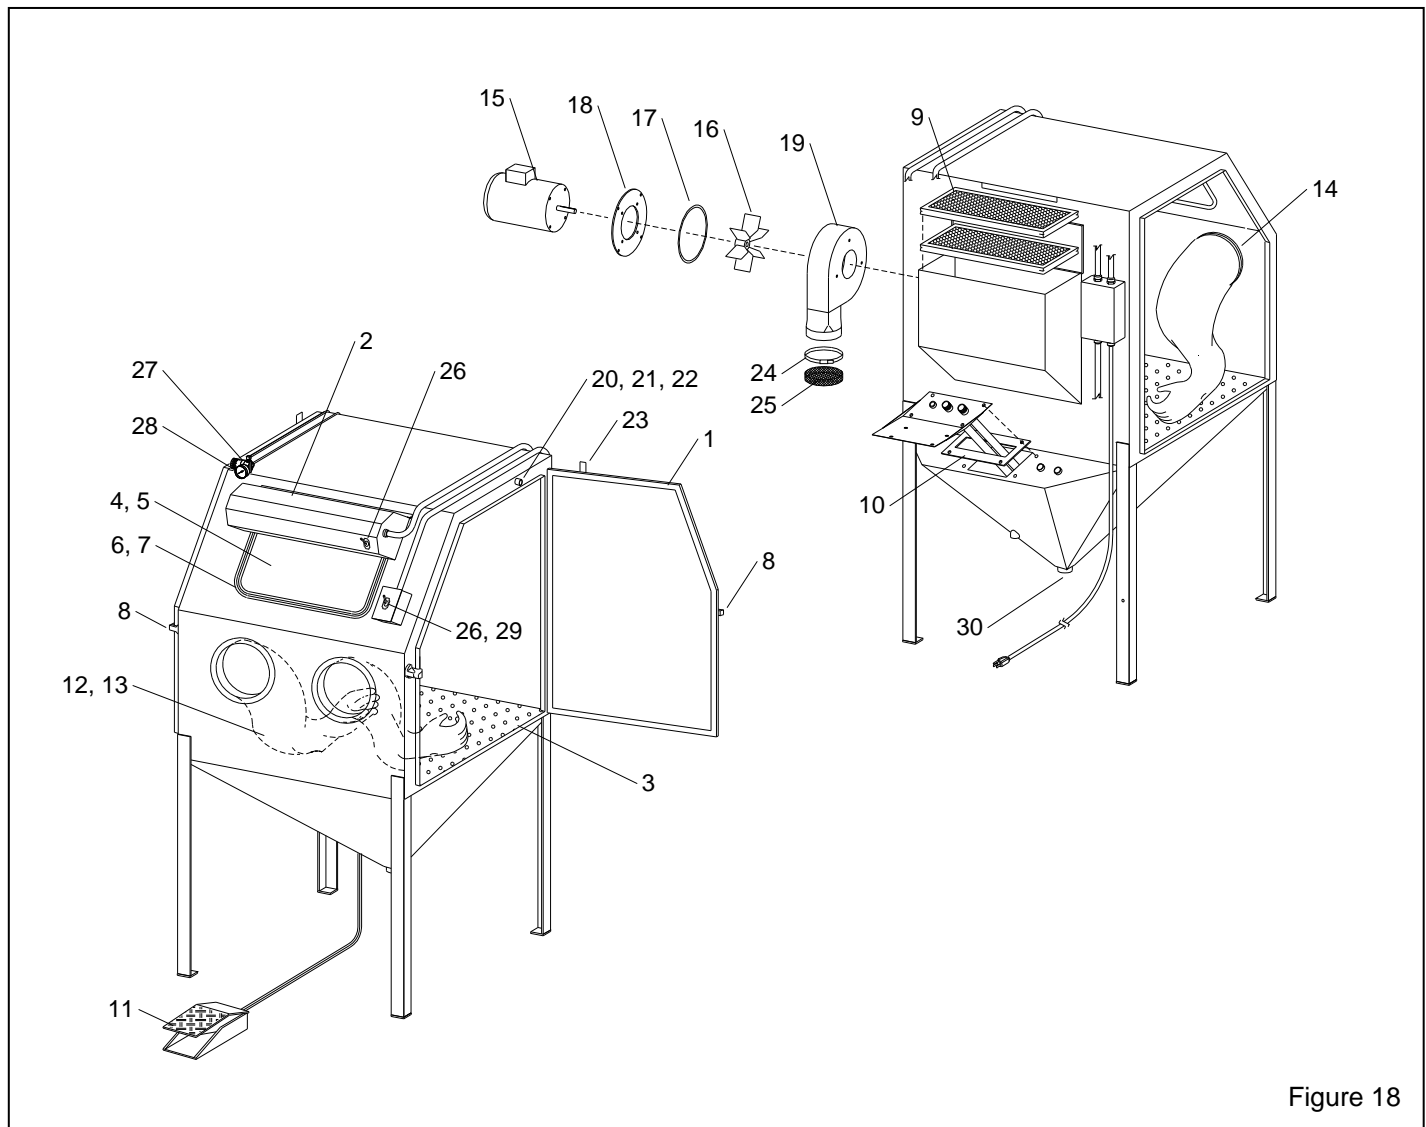

Figure 18
8.5 Cabinet Assembly, Figure 18